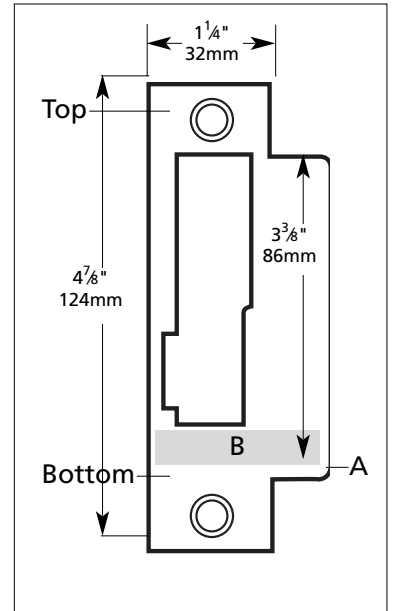

Figure 15
The bottom of the strike lip (A) (see Figure 15) must line up with the axis of rotation of the lever handle. Once the position of the strike has been established, follow the steps below:
- 3) Make sure you have the correct strike plate for the hand of your door - the larger and wider cutout, for the dead-bolt, should be at the top and the long end of the plate should be at the bottom (see Figure 15).
- 5) In a proper installation, the auxiliary latch should rest against the strike plate between the bottom of the cutout and the bottom of the lip (B). If the strike was improperly installed, the auxiliary latch may slip into the strike hole and prevent the latch from locking securely.